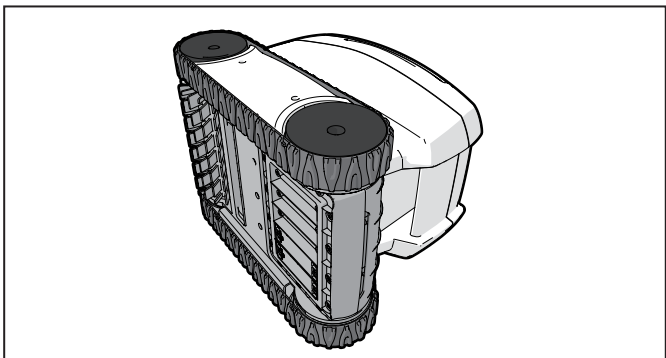

Figure 18. Stand Cleaner on its Side
- Stand the cleaner on its side (Figure 18).